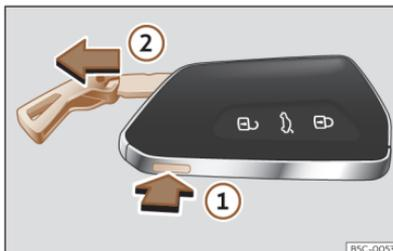

Fig. 79 Vehicle key: remove the key shaft.
- Press the >>> **Fig. 79** ① button to release the ring from the key fob and remove the key blade ②. Pressing lightly on the ring leaves it fixed as a key fob.
- Press the >>> **Fig. 79** ① button to unlock. Press and hold button ① and at the same time pull on the ring in the direction of arrow >>> **Fig. 79** ② to completely remove the key shaft.